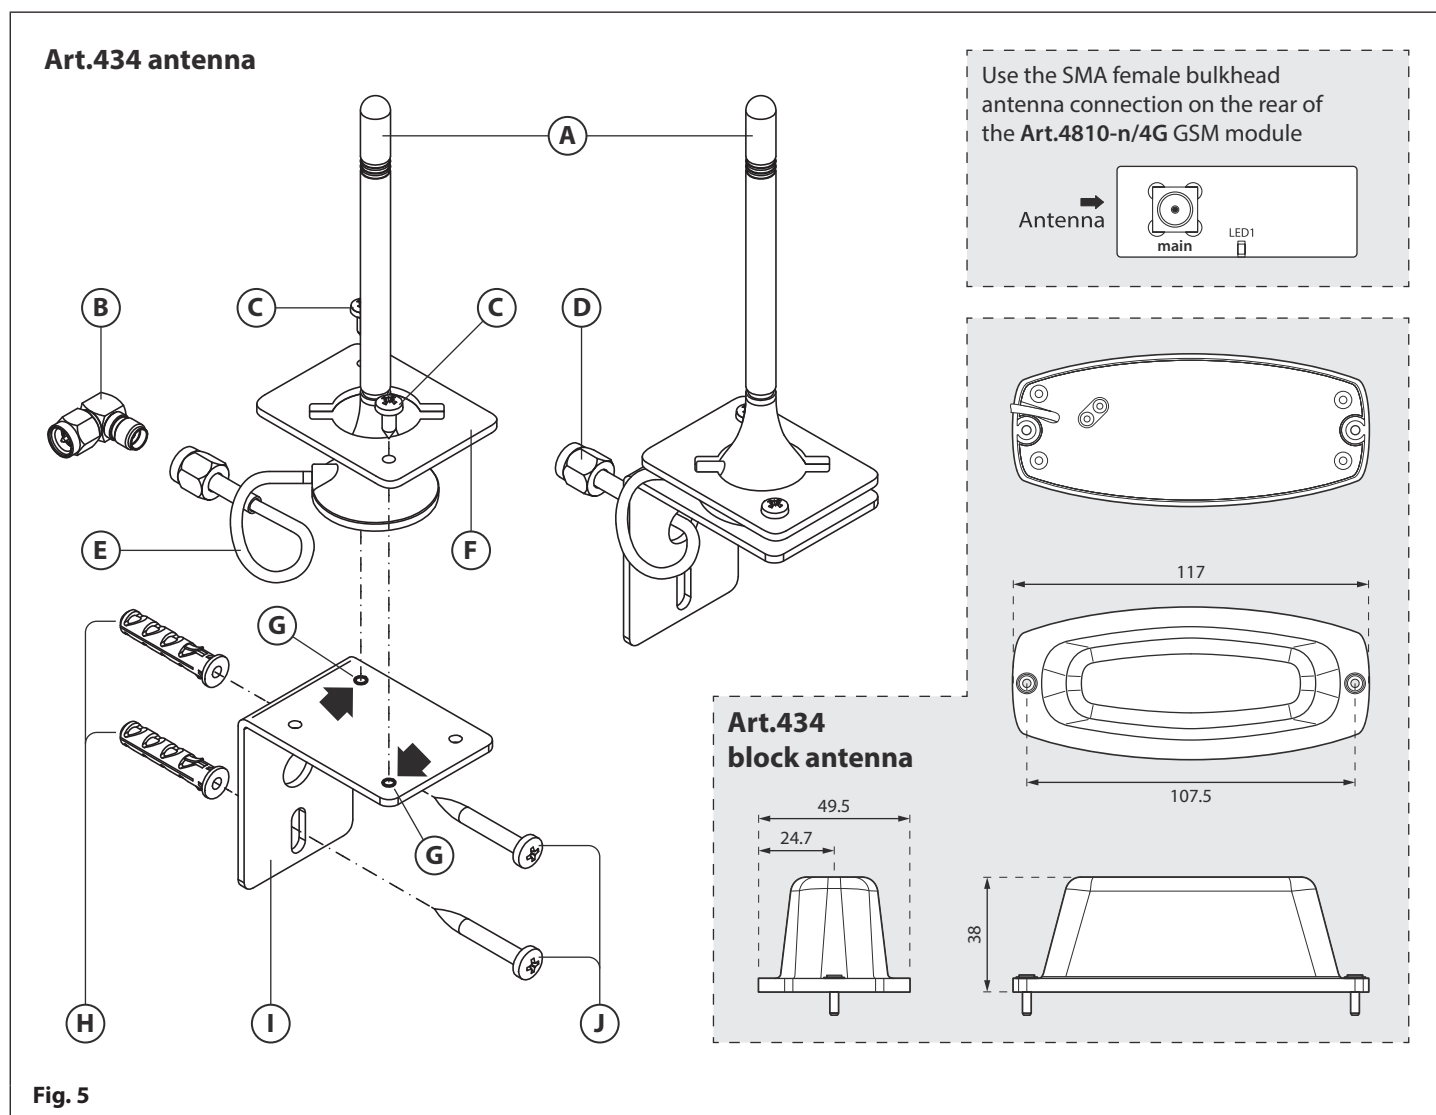

Fig. 5
The **Art.434 GSM antenna**, **Fig.5**, connects to the SMA female bulkhead connection on the rear of the 4G GSM module, see **Fig.5** inset. A GSM antenna with an SMA male connector should be used. Also available to use with both the **GSM4K/4G** and **GSM4KCR/4G** series audiokits is the **Art.434 block antenna**, **Fig.5** inset.
IN INSTANCES WHERE THERE IS A TIGHT FITTING SPACE FOR THE SMA MALE CONNECTOR ON THE ANTENNA CABLE, THE RIGHT ANGLED SMA ADAPTER, FIG.5 (B), CAN BE USED TO HELP REROUTE THE CABLE DOWN THE BACK SIDE OF THE GSM MODULE.